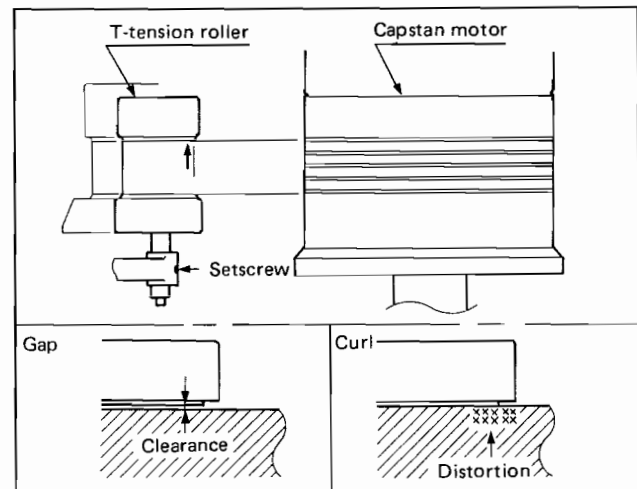

Fig. 5-15
1. Adjusting the T-tension roller height, set the T-tension roller so that there are no clearance and curl at the entrance (indicated by arrow) on the upper flange of the T-tension roller. (Fig. 5-15)